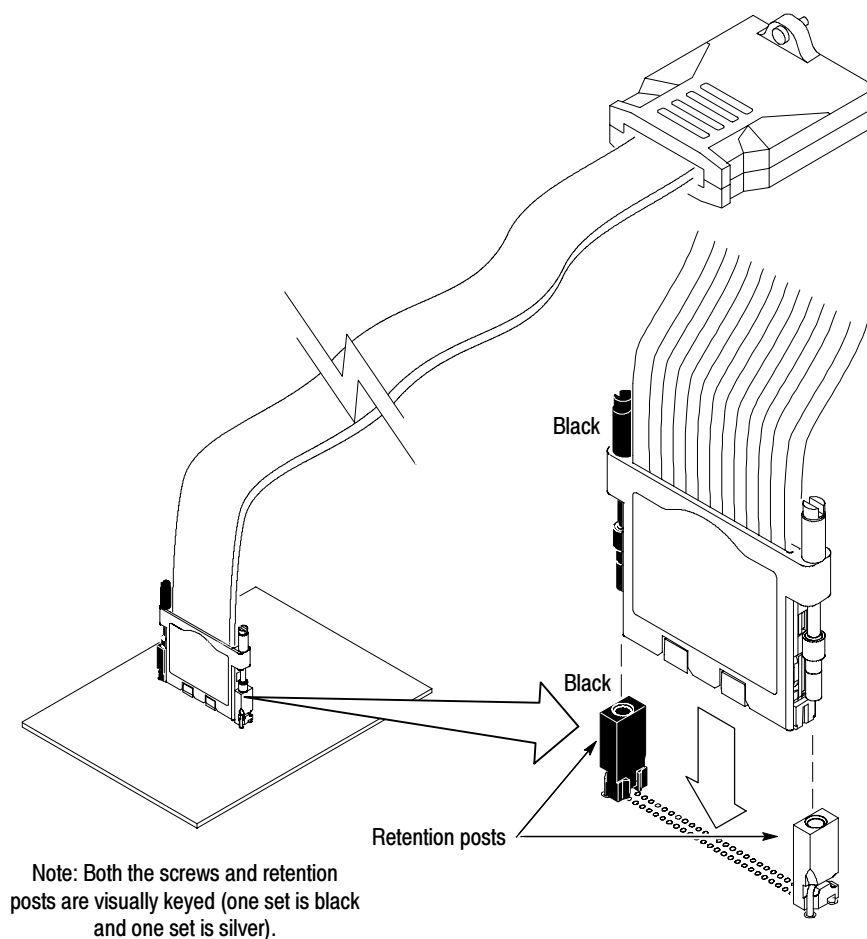

Figure 7: Connecting the probes to the target system
1. Align the black screw on the probe with the black post on the PCB. See Figure 7.